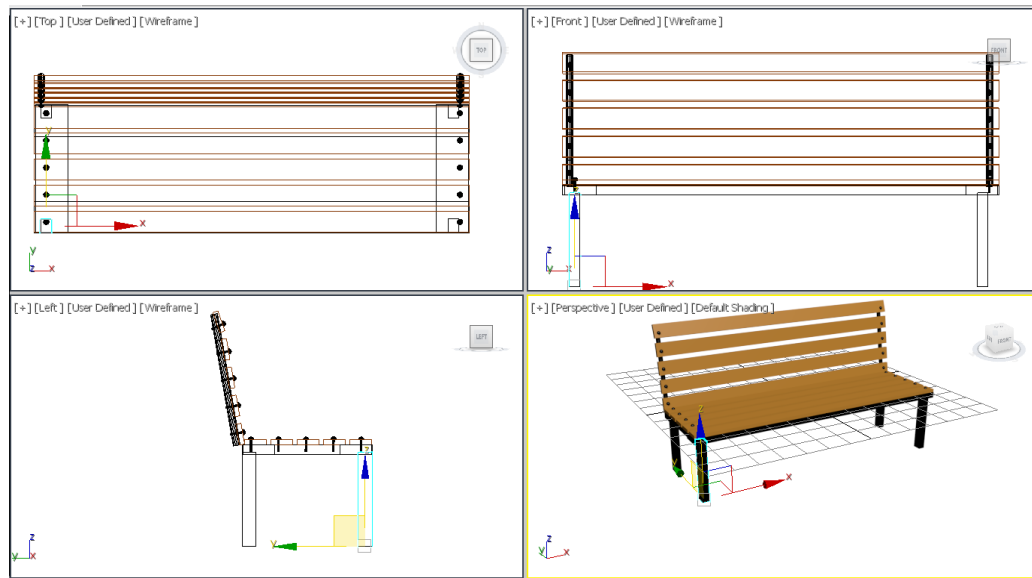

Figure 2-99 Alignment of legs in viewports
- Choose the **Select and Move** tool and align *leg002*, *leg003*, and *leg004* in the viewports, as shown in Figure 2-99.